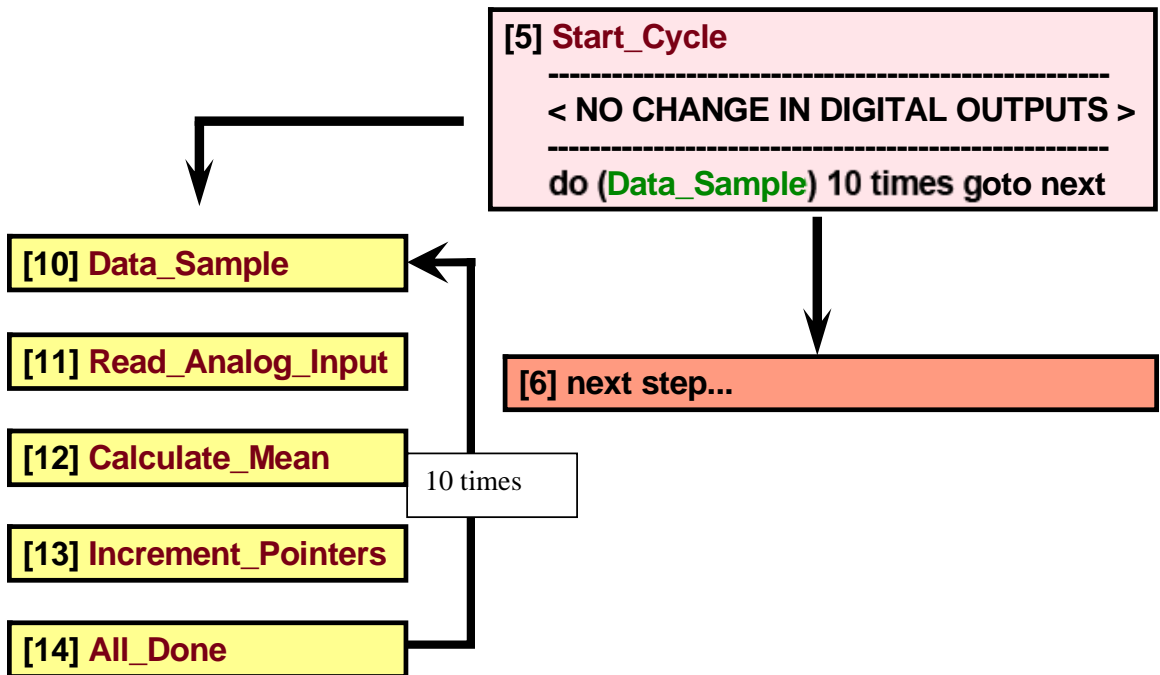

Figure 3: Flow chart using the Do statement to run just one task multiple times.
8. If you program a task to run multiple times it will continue to start over until it sees the Done statement the specified amount of times. See example in Figure 3.